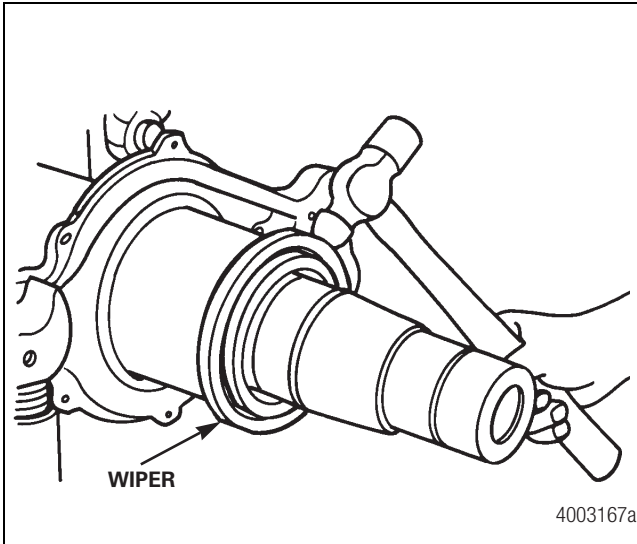

Figure 3.9
12. If the seal incorporates a separate wiper on the oil seal collar, loosen it by lightly striking with the round end of a ball-peen hammer, then remove it and discard. Figure 3.9.